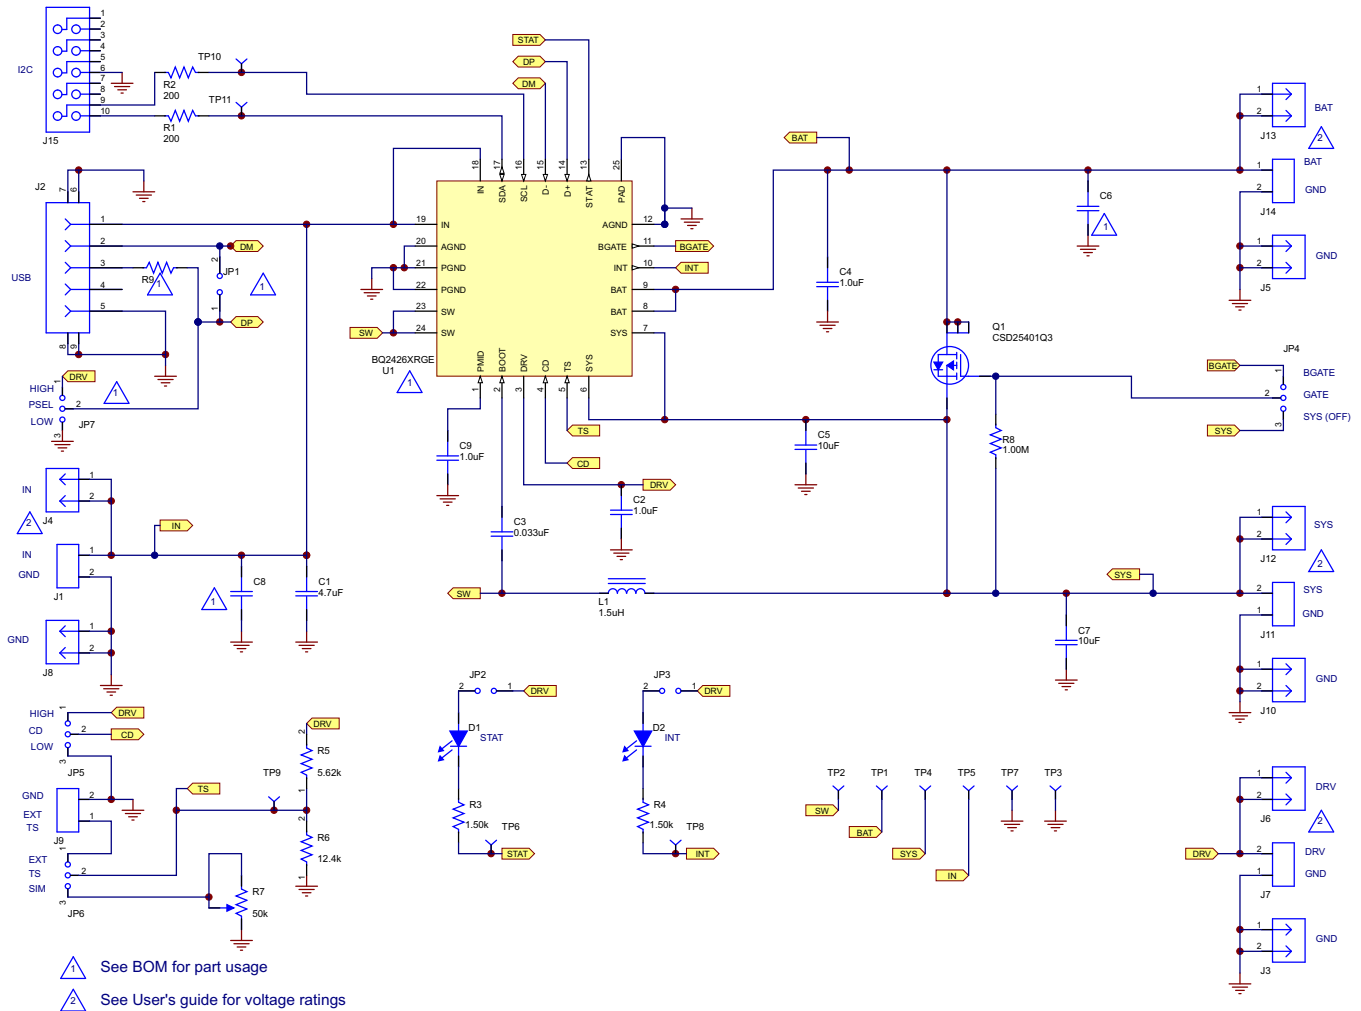

Figure 1. bq24260, bq24261, bq24262EVM Schematic
The bq24260, bq24261, and bq24262 EVM schematic is shown in Figure 1.
3. If BAT\_Load as shown in Figure 1 is used, connect PS #2 set to approximately 3.6 V to the input side (PS #2±) of BAT\_Load, then turn off PS #2.